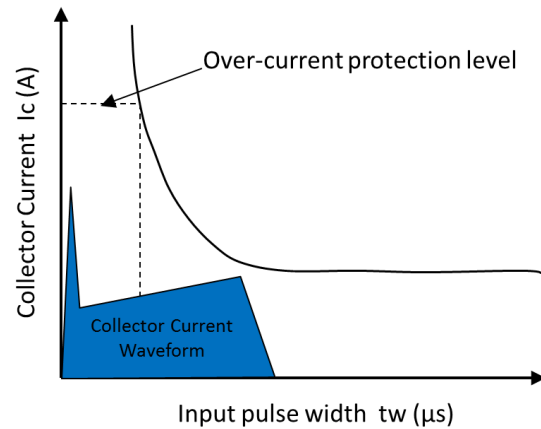

Figure 11. Filter Time Constant
A RC filter is used on the ITRIP(I) and ITRIP(P) inputs to prevent an erroneous OCP detection due to normal switching noise or recovery diode current. The time constant of the RC filter should be set to a value between 1.5 μ to 2 μs. In any case the time constant must be shorter than the IGBTs short current safe operating area (SCSOA). Please refer to data sheet for SCSOA. The resulting OCP level due to the filter time constant is shown in Figure 11.